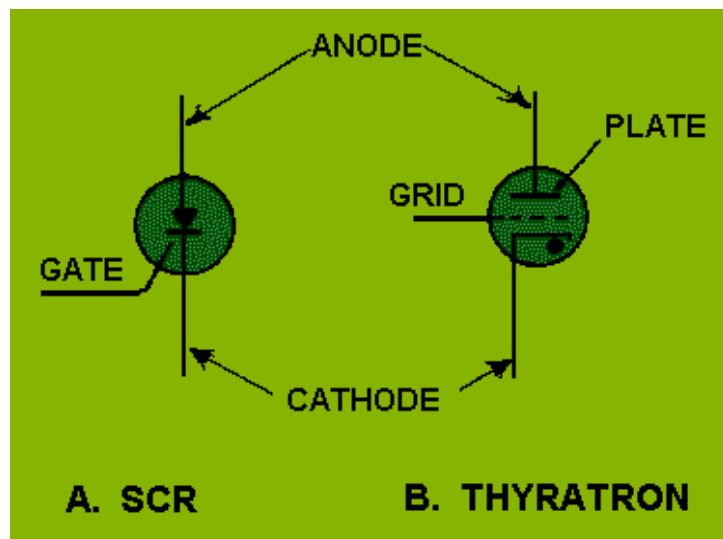

Figure 3-21.—Comparison of an SCR and a thyratron.
The basic operation of the SCR can be compared to that of the thyratron. The thyratron is an electron tube, normally gas filled, that uses a filament or a heater. The SCR and the thyratron function in a very similar manner. Figure 3-21 shows the schematic of each with the corresponding elements labeled. In both types of devices, control by the input signal is lost after they are triggered. The control grid (thyratron) and the gate (SCR) have no further effect on the magnitude of the load current after conduction begins. The load current can be interrupted by one or more of three methods: (1) the load circuit must be opened by a switch, (2) the plate (anode) voltage must be reduced below the ionizing potential of the gas (thyratron), (3) the forward-bias current must be reduced below a minimum value required to sustain conduction (SCR). The input resistance of the SCR is relatively low (approximately 100 ohms) and requires a current for triggering; the input resistance of the thyratron is exceptionally high, and requires a voltage input to the grid for triggering action.